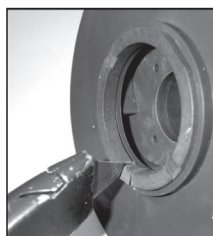

Figure 18
1. Thrust ring (item 4A) is held in-place with a snap fit with a ridge. Using a razor knife or side cutters, cut a notch out of the thrust ring. Pull ring up and out of the holder. See figures 18 and 19.